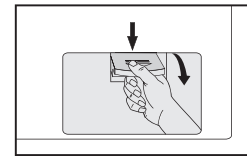

Fig 26
1. After the power is disconnected, use hand to open the filter cover (Fig26).